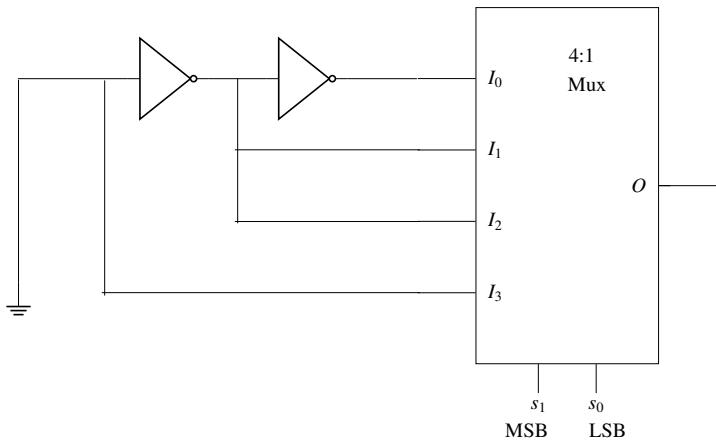

Fig. 3.28
47. The Boolean operation performed by the following circuit in Fig. 3.28 at the output  $O$  is \_\_\_\_\_.